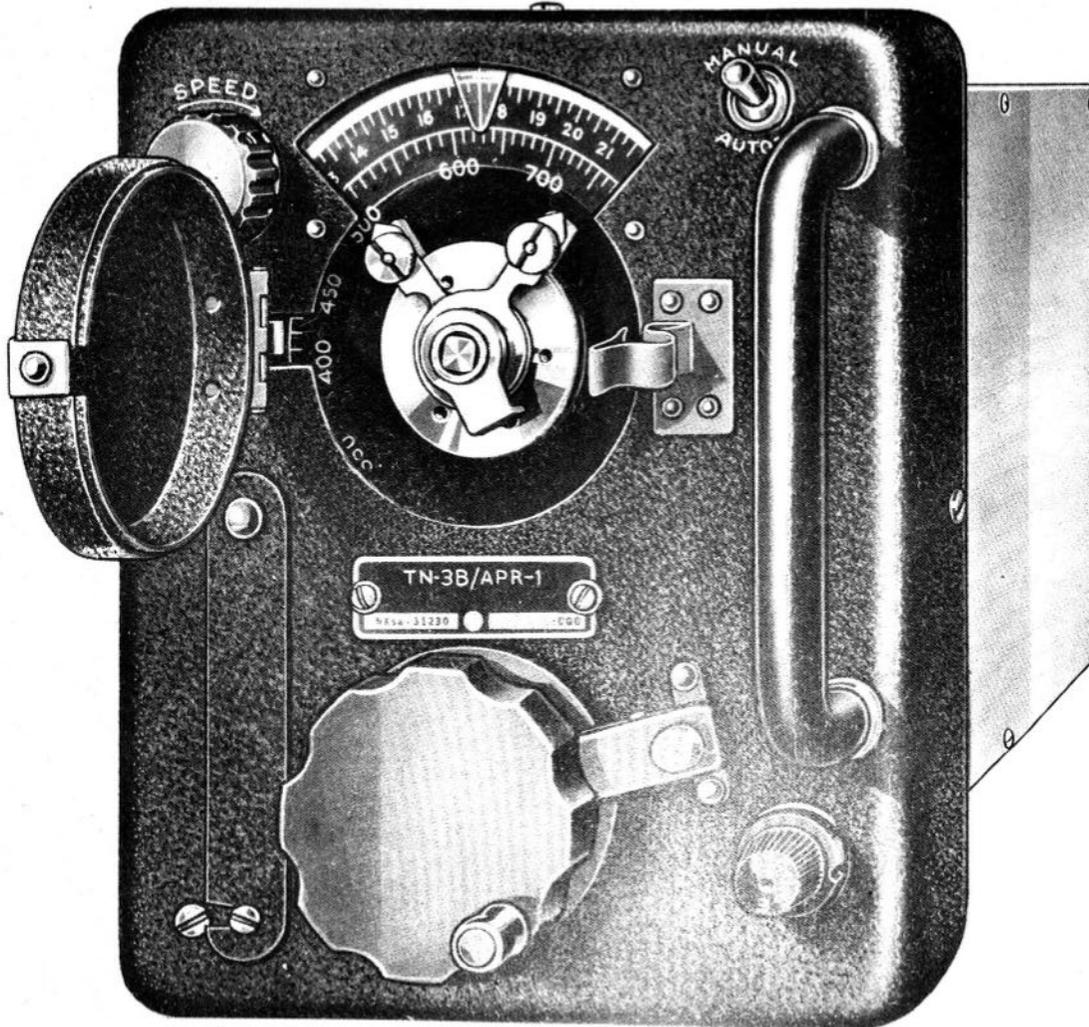

Figure 3-2. Sector Sweep Tuner, Front Panel Open.
On the tuning units, a locking device is provided which may be used to lock the dial to any specific frequency desired. For all ordinary conditions of search operation, this locking device should be left in the open position. Early production tuners do not have this device. (Fig. 3-2.)
(b) To adjust the tuner, push the snap spring to the right on the front cover. The cover will then automatically open and the adjustment pointers are accessible. The pointers are provided with two knurled nuts for locking the pointers in position. Loosen the nuts and set the pointers to the end frequencies of the range to be swept. Tighten the nuts and close the front cover. (Fig. 3-2.)
The SPEED control varies the speed of the Sector Sweep motor permitting the operator to slow down the speed of sweep and increase the possibilities of picking up weak signals. (Fig. 3-2.)
When the tuner switch is in the AUTO position, the tuner will automatically sweep the frequency range at which it is set, see Section III, paragraph 1 b (2) (b). When it is desirable to tune manually, set switch in the MANUAL position. (Fig. 3-2.)